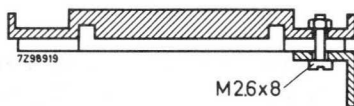

Fig.9. Connector rail attached to profile strip with board guides.
3. Attach a connector rail to each rear profile strip by means of 6 equidistant screws and nuts M2.6x8 (see Fig.9). Do not tighten the screws earlier than step 10.